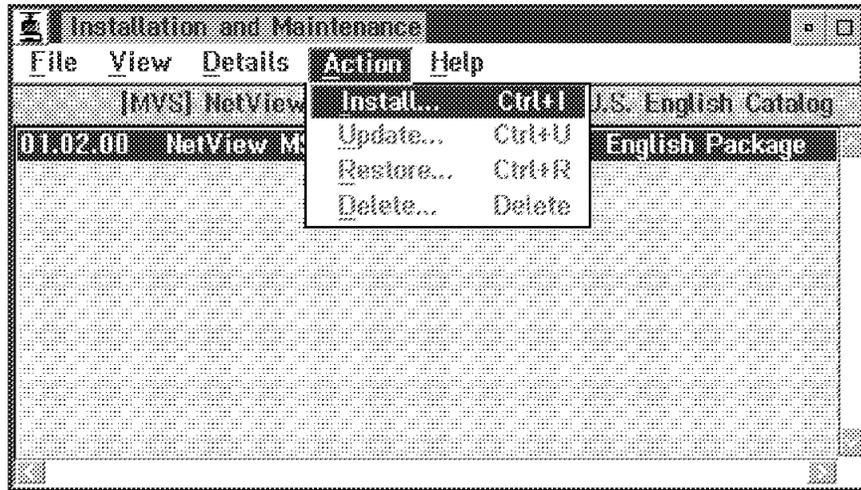

Figure 119. Selecting Install
- Click on the **Open** push button in the Open host catalog window to download the IBM NetView MultiSystem Manager catalog file. In the Installation and Maintenance window, (see Figure 119) the *NetView MultiSystem Manager US English Package* should now be highlighted.